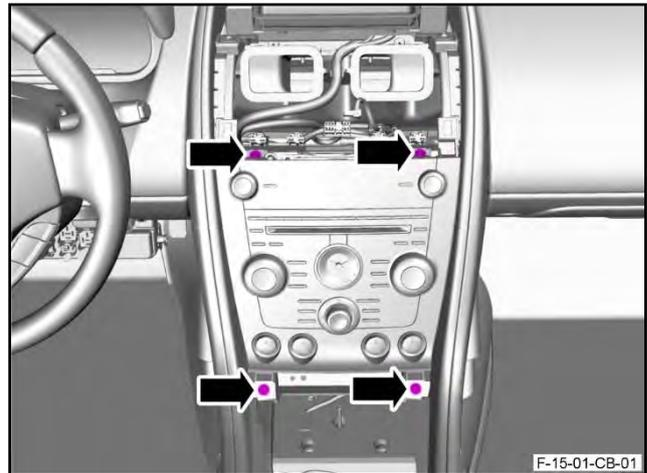

Figure 19
27. Remove the four screws that attach the centre stack assembly to the IP (refer to Figure 19).